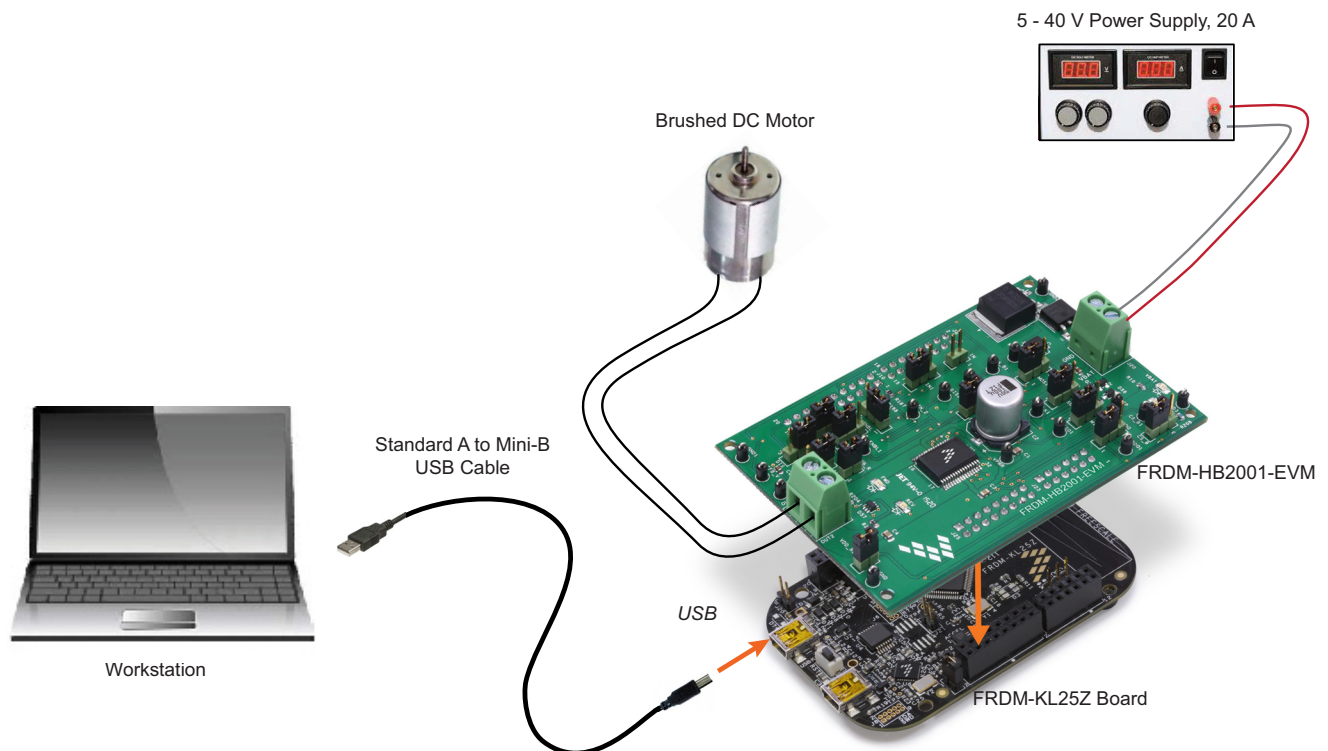

Figure 14. FRDM-HB2001-EVM Configured for Use with an FRDM-KL25Z Board
Figure 14 illustrates the hardware configuration using a FRDM-KL25Z.
4. Launch SPIGen. The HB2000/HB2001 device should appear in the Device View panel at the left (see Figure 14).